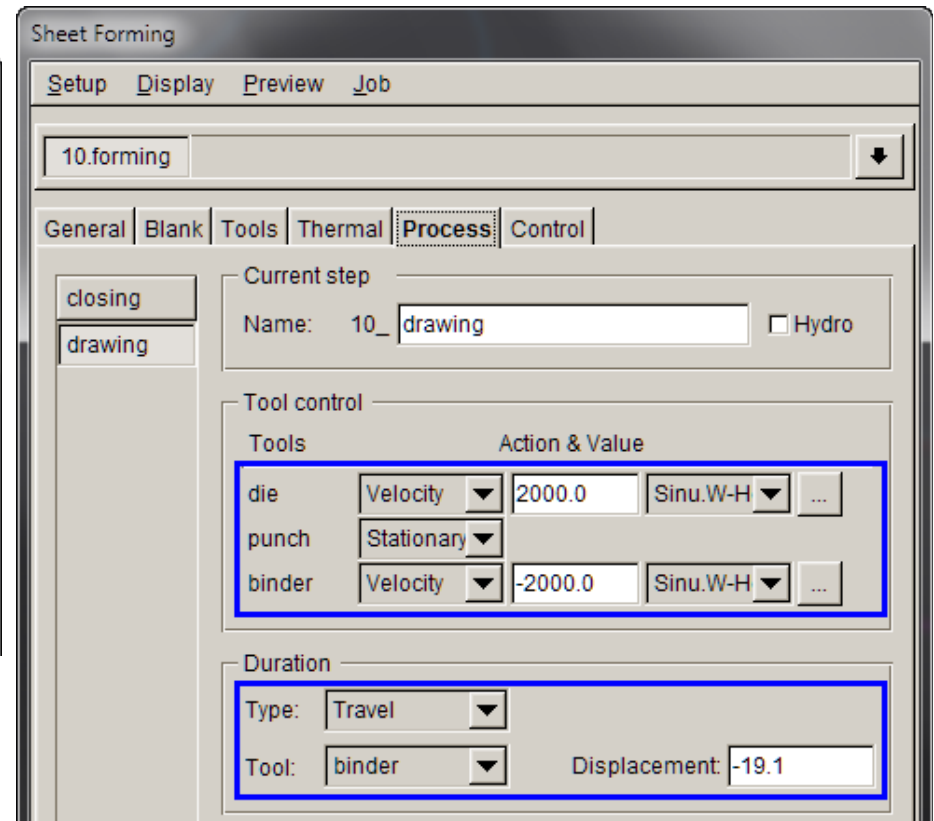

Figure 49
3. Drawing step is defined as illustrated in Figure 49.